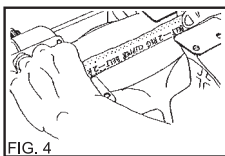

FIG. 4
3. Grasp paper and pull away from other side of hooks (Figure 4).